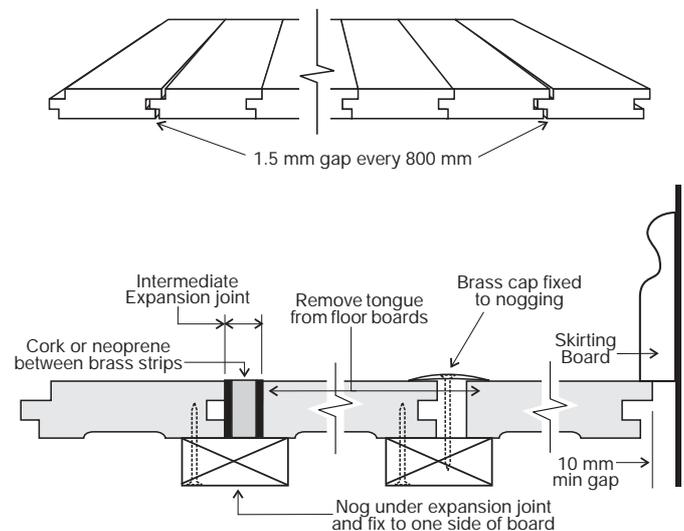

Figure 3 - Expansion gap details
- Providing additional intermediate expansion allowance (refer to Figure 3.)
For fitted and platform floor widths over 6 m or where extra allowance for expansion is required (e.g. moist locations) an intermediate expansion joint, or a series of smaller expansion joints every 600 mm to 1000 mm should be provided. Refer to Figure 3 for details of expansion gaps.